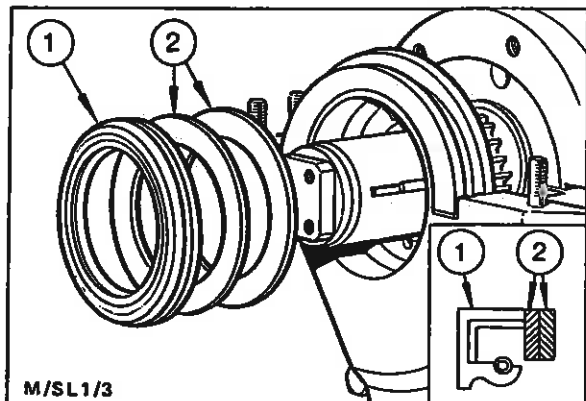

Fig. 58 - Assembling Crankshaft Pulley Oil Seal into Timing Gear Housing Cover
43. After the timing housing cover has been installed and the Aligner Tool No. 21-536 removed, check the crankshaft pulley hub outer diameter at the point where it runs in the front oil seal. If the seal is in contact with a highly polished ring, remove one or both spacers (one spacer only on the 2722 engine) before installing the oil seal - see Fig. 58. This will enable the seal to run on an unpolished part of the pulley hub. Failure to do this could result in an overheated seal and subsequent oil leakage.
44. Locate the oil seal, lipped edge inwards as shown in the inset of Fig. 58 and push it fully home using tool No. 21-536. DO NOT use any sealant for this operation.